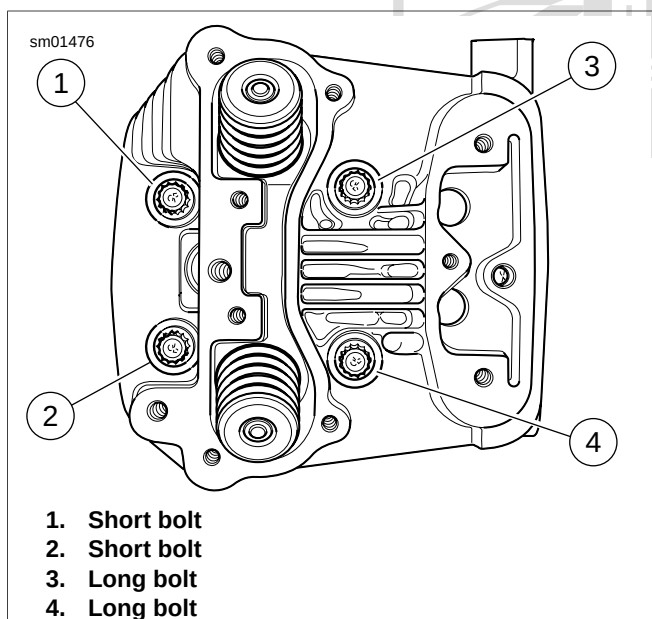
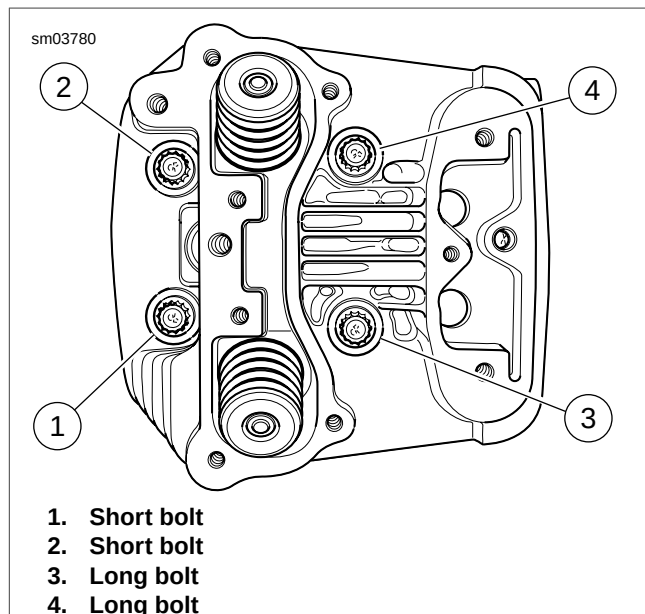

Figure 3-62. Front Cylinder Head Screw Loosening/Tightening Sequence (typical)
Figure 3-63. Rear Cylinder Head Screw Loosening/Tightening Sequence (typical)
9. See Figure 3-62 and Figure 3-63. For each cylinder head, start with bolt numbered one, as shown. In increasing numerical sequence (i.e.: 1, 2, 3, 4), tighten head bolts in the following steps: